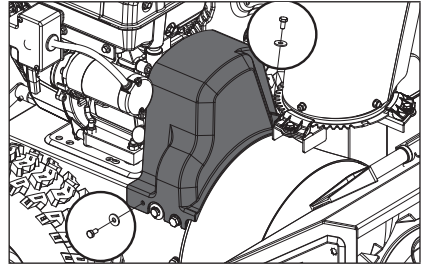

Figure 54
1. Remove the plastic belt cover on the front of the engine by removing two M6 × 12 bolts and flat washers. (Fig. 54)